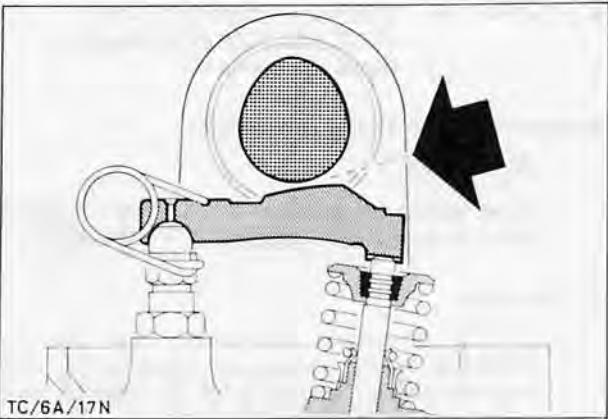

Fig. 170. Measure valve clearance
2. Adjust valve clearances, proceeding as follows: Rotate cams one by one so that they point upwards and measure valve clearance between cam follower and cam, Fig. 170. Adjust clearance at ball pin. Torque ball pin lock nut as specified in Technical Data, using Special Tool 21-004-A (see Technical Data).